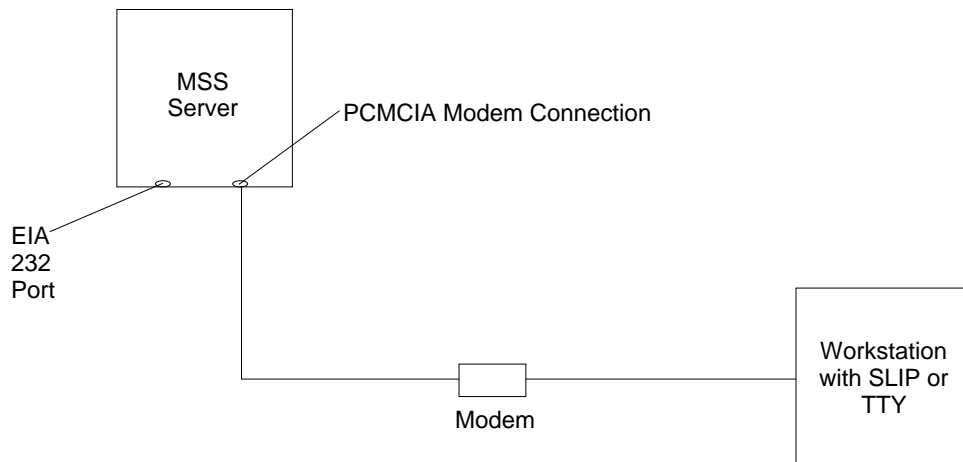

Figure 3-2. Remote Serial Connection to the PCMCIA Modem (Voice/Data/Fax PCMCIA Modem or Data/Fax PCMCIA Modem)
- A remote connection through the PCMCIA modem, the Voice/Data/Fax PCMCIA Modem, or the Data/Fax PCMCIA Modem (see Figure 3-2 on page 3-2).